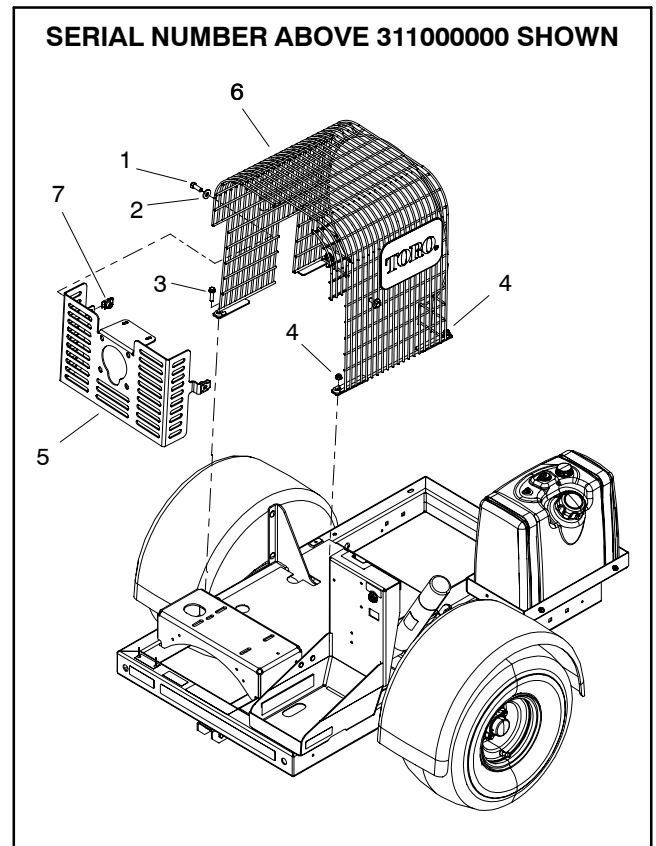

Figure 7
**NOTE:** Machines with serial number above 311000000 use a muffler mount to support the front of the top grill (Fig. 7). Removal of the muffler mount on these machines requires removal of the blower driveshaft or engine.